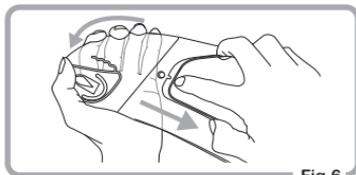

Fig.6
- ① Remove the shield from the helmet.
- ② Remove the Pinlock® Original Insert Lens from the eccentric pins by flexing the shield. (Fig.6)